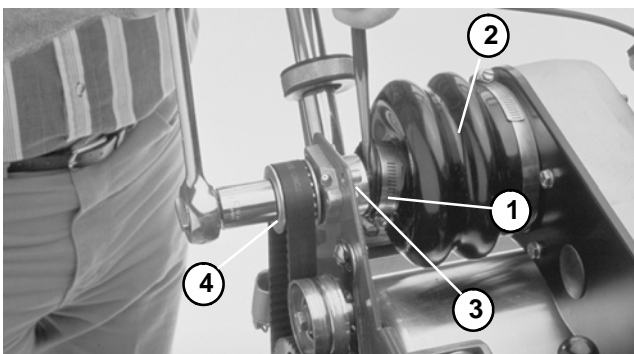

Figure 54
7. Remove nut from the short axle of the differential as follows (Fig. 54):